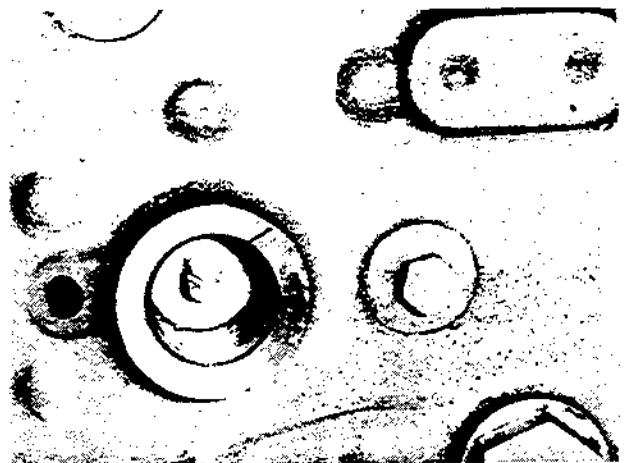

FIGURE 3 – Capacity Control Adjusting Screw
1. Connect a clamp-on voltammeter to one of the compressor motor leads and remove the cap from the capacity control adjustment screw, located on the control handhole cover (see Figure 3).